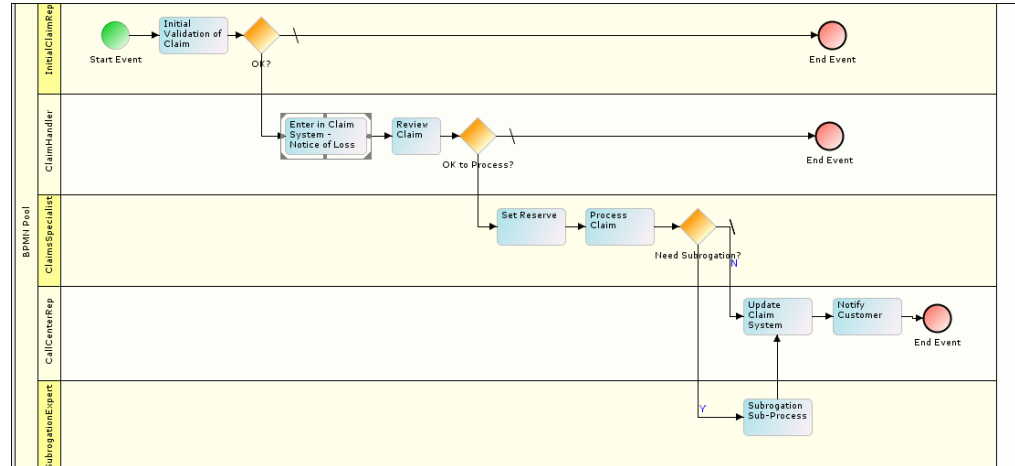

Figure 7.18: Connecting all BPMN Elements
3. Connect all BPMN elements with appropriate control flow (see Figure 7.18).